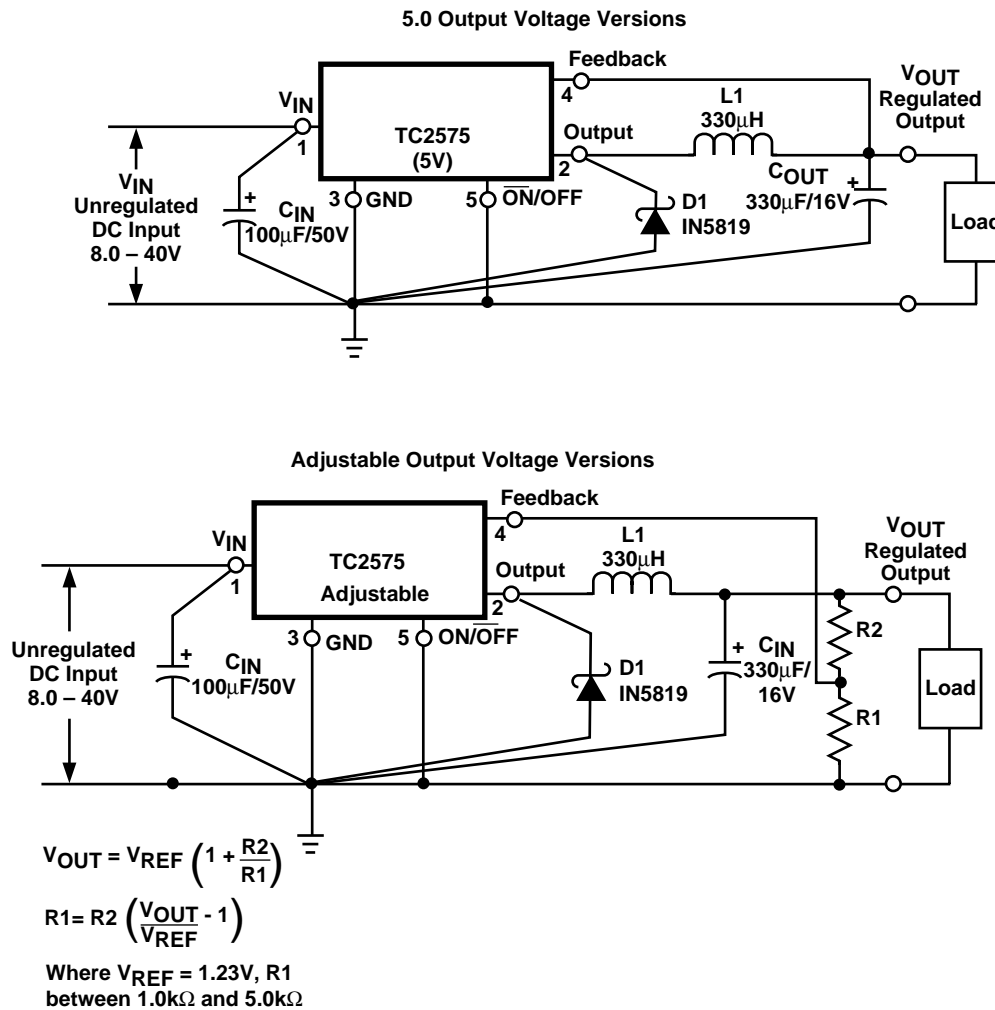

Figure 2. Typical Test Circuit
TC2575-3.3 [(Note 1) Test Circuit Figure 2]
TC2575-5 [(Note 1) Test Circuit Figure 2]
TC2575-12 [(Note 1) Test Circuit Figure 2]
TC2575-Adjustable Version [(Note 1) Test Circuit Figure 2]
- NOTES:** 1. External components such as the catch diode, inductor, input and output capacitors can affect the switching regulator system performance. When the TC2575 is used as shown in the Figure 2 test circuit, the system performance will be as shown in the system parameters section of the Electrical Characteristics.
As in any switching regulator, the layout of the printed circuit board is very important. Rapidly switching currents associated with wiring inductance, stray capacitance and parasitic inductance of the printed circuit board traces can generate voltage transients which can generate electromagnetic interferences (EMI) and affect the desired operation. As indicated in the Figure 2, to minimize inductance and ground loops, the length of the leads indicated by heavy lines should be kept as short as possible.
1. Programming Output Voltage To select the right programming resistor R1 and R2 value (see Figure 2) use the following formula:  $V_{OUT} = V_{REF} \left( 1.0 + \frac{R2}{R1} \right) \text{ where } V_{REF} = 1.23V$  Resistor R1 can be between 1.0k $\Omega$ and 5.0k $\Omega$ . (For best temperature coefficient and stability with time, use 1% metal film resistors).  $R2 = R1 \left( \frac{V_{OUT}}{V_{REF}} - 1 \right)$	1. Programming Output Voltage (selecting R1 and R2) Select R1 and R2 $V_{OUT} = 1.23 \left( 1.0 + \frac{R2}{R1} \right) \text{ Select } R1 = 1.8k\Omega$  $R2 = R1 \left( \frac{V_{OUT}}{V_{REF}} - 1.0 \right) = 1.08k \left( \frac{8.0V}{1.23V} - 1 \right)$  $R1 = 9.91k\Omega$ , choose a 9.88k $\Omega$ metal film resistor.